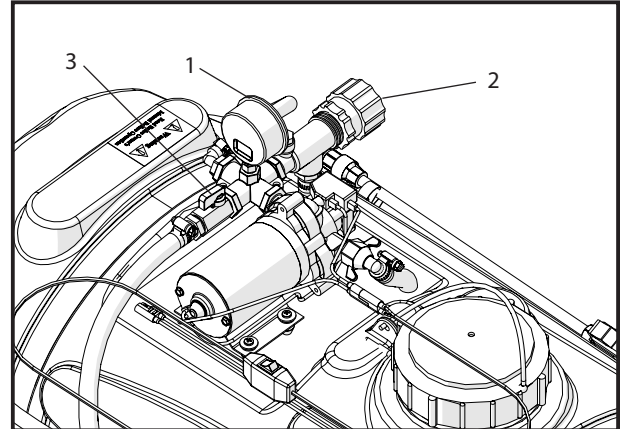

Figure 1: Adjusting the Sprayer Pressure
This is done by adjusting the Pressure Relief Valve (2) (Figure 1), which controls the sprayer's pressure, and is located in front of the pressure gauge (1) (Figure 1).